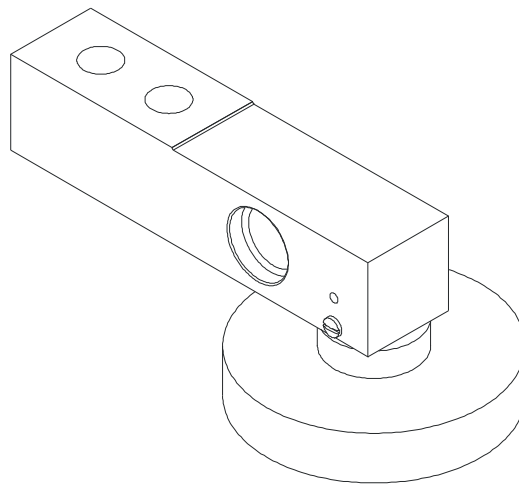

FIG. 16 INSIDE VIEW
- Step 4. Screw the nut onto the lock bolt until it is tight. The feet should look like the following: (See Figs. 16 & 17)